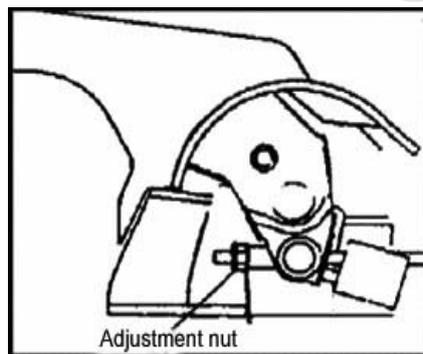

Fig. 2-72
- (1) Remove the rear wheel.
- (2) Adjust the brake shoe clearance.
- (3) Install the rear wheel. Tightening torque: 103N·m.
- (4) Check the parking brake rod play. Hold the rod and count the number of clicks. Parking brake rod play: 6-9 clicks under 200N force.
- (5) Adjust the parking brake rod play. See Fig.2-72.